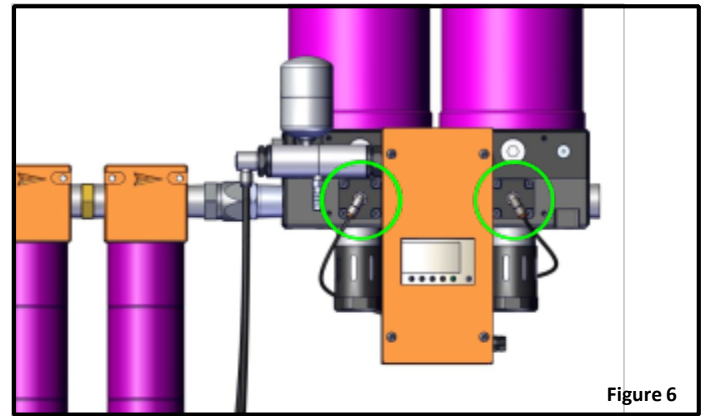

Figure 6
1. Disconnect tubing from quick-connect fitting located on piston cover. Push in on orange ring. While holding ring in, pull out tubing. *Figure 6*